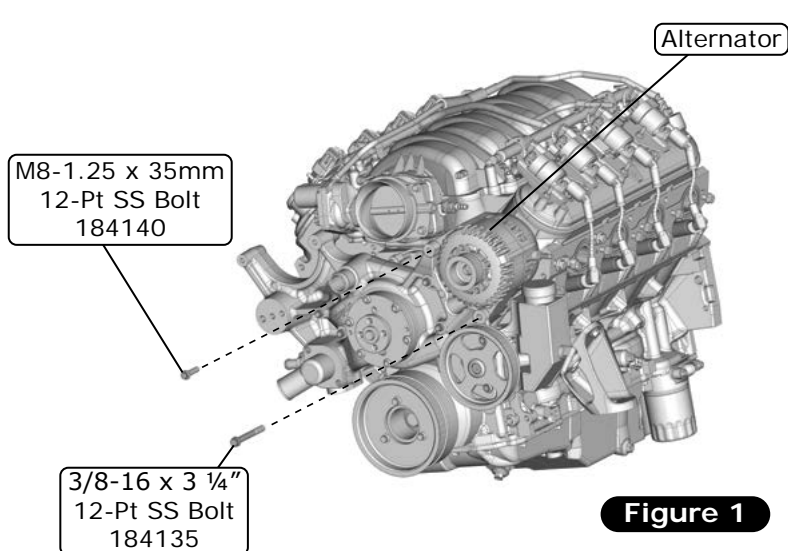

Figure 1
2. In order to package Front Runner as closely to engine block as possible, rear of alternator is very close to driver-side head. Alternator has (3) small screw threads protruding from back. Since thread lengths can vary slightly, with Front Runner main casting installed, perform clearance check between protruding alternator threads and head, grinding thread(s) shorter as required to allow alternator to slide easily between installed Front Runner casting and head. This modification will have no impact on alternator performance, but to ensure proper alignment of Front Runner system to block, main bracket must be installed prior to alternator installation.
4. For system **with power steering**, secure lower alternator boss with 3/8-16 x 3 1/4" 12-Pt SS bolt torqued to 37 lb-ft (See Figure 1, below).